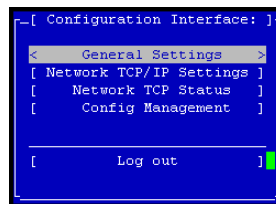

Figure 203. Configuration Interface Main Menu
1. Tab to Login and press Enter. The Configuration Interface main menu opens, shown in Figure 203.